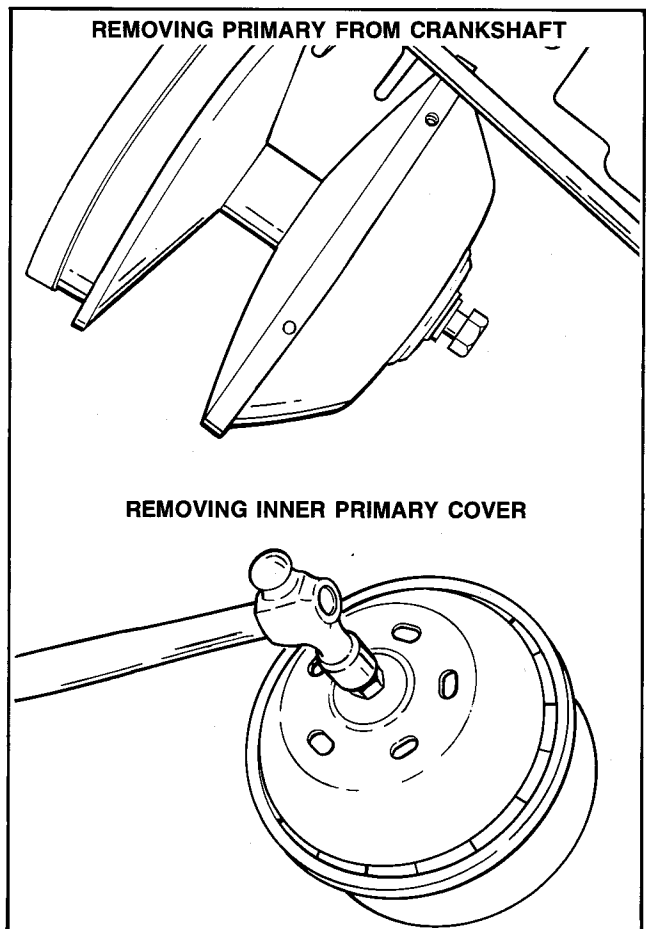

Figure 9-5 – Removing Primary Drive Floating Flange and Drive Cover
- g. See Figure 9-5. Remove complete primary assembly (using Tool No. 94452-82) by inserting pin and bolt into primary shaft and tighten bolt. As the bolt is tightened, the complete primary assembly will come free of the crankshaft. While supporting the primary in your hand, back bolt out of primary shaft and tap the bolt with a hammer to remove the inner cover.